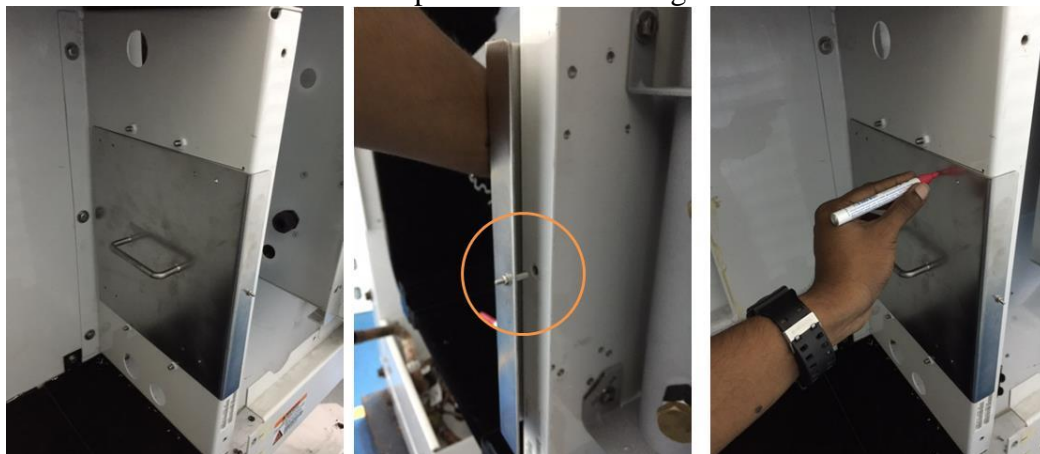

Figure 6
- If available, use the installation template to mark out the holes to be drilled. The locating pin should be fully inserted into the center hole of the panel as shown in figure 6.